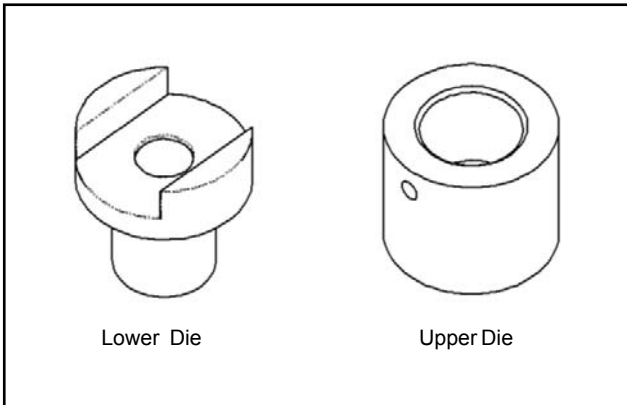

Figure 3
5. Place the lower high volume pan die (Figure 3) into the lower die holder.